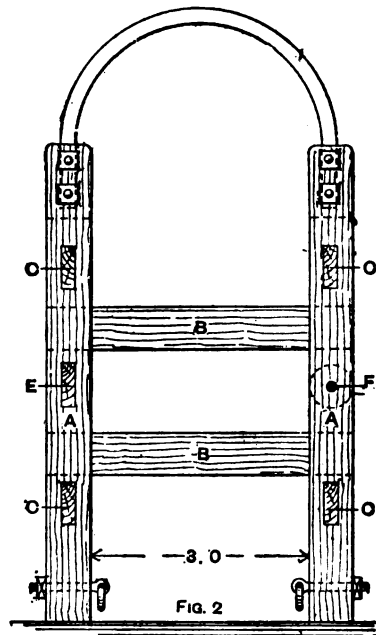

FIG. 2
**Stocks for Shoeing Kicking Horses.**—Fig. 1 shows side elevation, and Fig. 2 end elevation, of a set of stocks for use in shoeing horses that kick. The ground is marked out to Figs. 1 and 2, and 7-in. square posts A are sunk in each corner. If the stocks are put up in a building or against a wall there must be clearance (say 2 ft. or 3 ft.) in front for the horse's head. Two cross
rails B (Fig. 2) are fixed in front, and, if desired, movable ones at the back, similar to rails seen in stable stalls. The top cross rail in front should come just under the horse's chest. There are also two rails C (Figs. 1 and 2) at each side, as shown; also a roller D (Fig. 1) on the near side, and a centre rail E (Fig. 2) opposite on the off side; the sheet or webbing is strapped round the rail and made a fixture on the roller so that a man at the front and one at the back working the roller lift the horse off its feet, which are strapped to the rings shown at the bottom of the posts. The roller is turned with iron pins F (Fig. 1), like those seen on knacker carts. The bow seen at the top of the front posts is of iron.